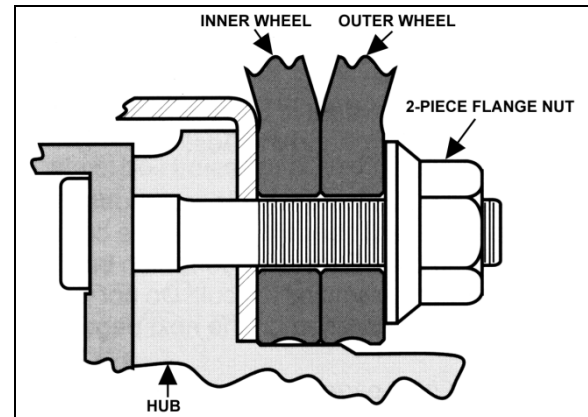

FIGURE 4: DRIVE AXLE WHEELS
1. Loosen a hex stud nut three turns (Figure 4);